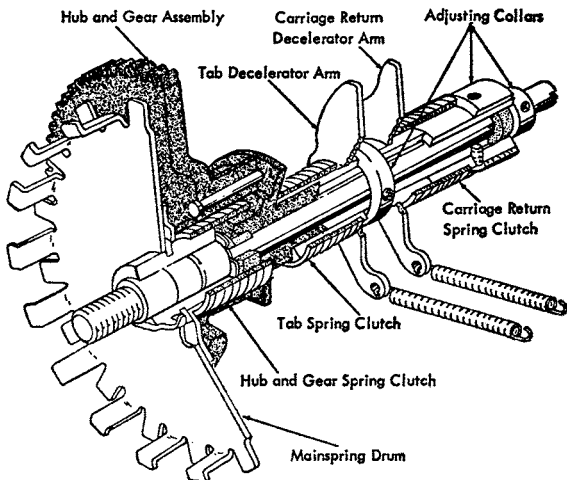

Figure 17. Decelerator
The decelerator is a control mechanism for the centrifugal-governor. It consists of a series of spring clutches and cam arms that control the action of the centrifugal-governor (Figure 17). The decelerator-governor action absorbs carriage shock and controls the speed of the moving carriage. It eliminates the tab rebound check-lever, the air cylinder and the horseshoe shaped tab-lever mounting-bracket.
1. **SPRING - CLUTCH COLLARS.** The tabulation and carriage-return spring-clutch collars should be positioned on the shaft so as to allow their decelerator arms to rotate freely without exceeding .003" end play of the arms on the shaft (Figure 17).